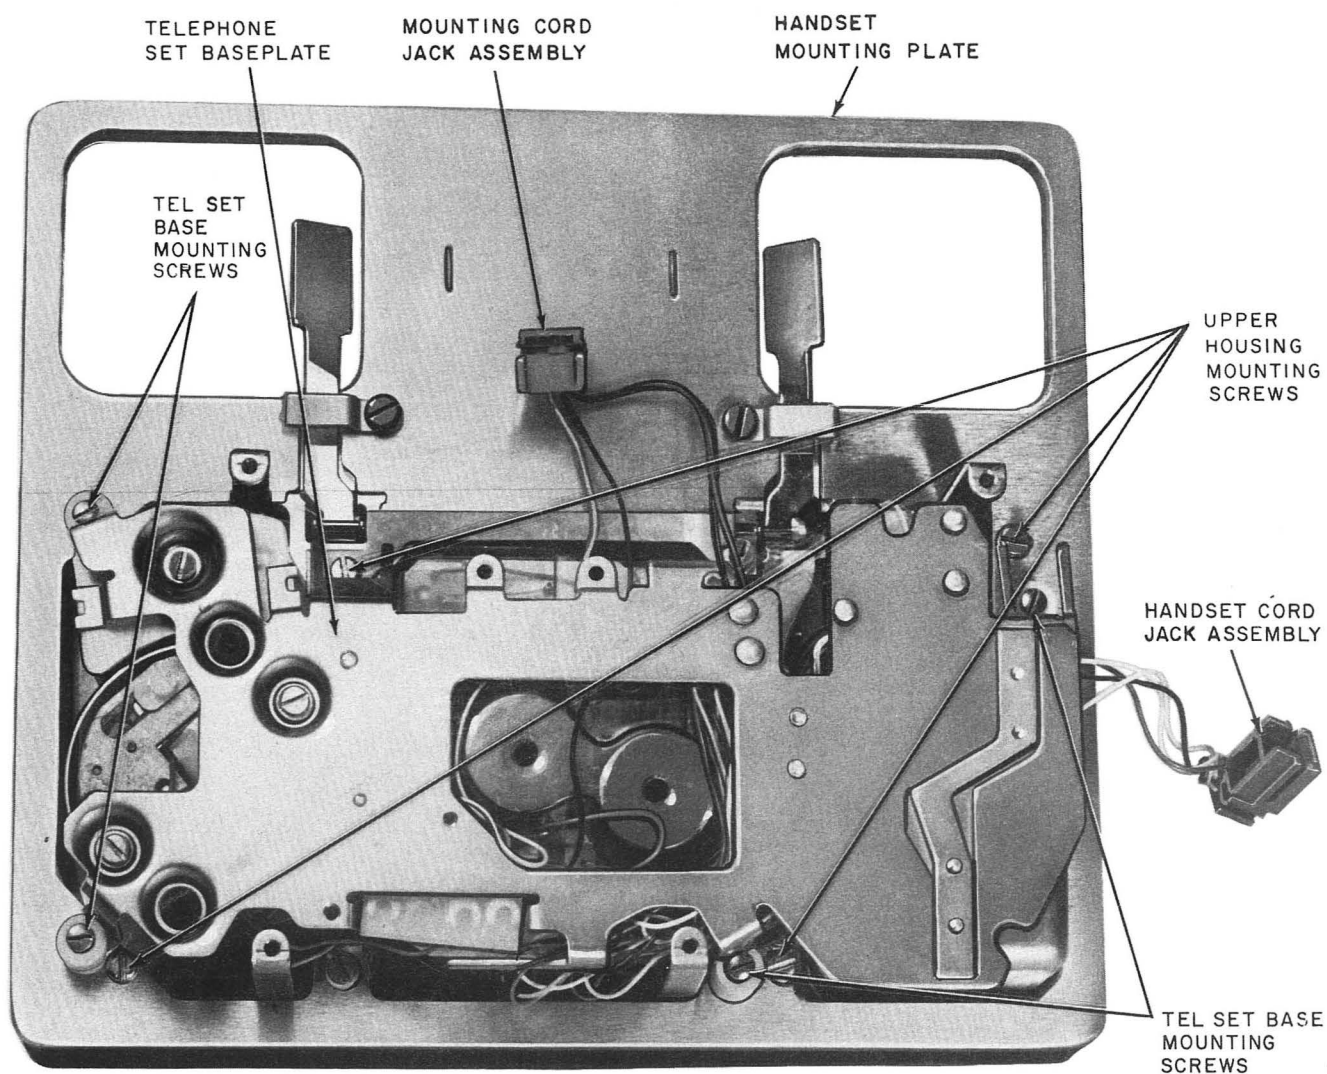

Fig. 5—2930A-Type (MD) Telephone Set with Lower Housing Removed
- (3) Remove bottom plate and lower housing.
- (4) Remove handset cord jack and mounting cord jack from brackets by lifting off (Fig. 5).
- (5) Remove four upper housing mounting screws (Fig. 5) which secure upper housing and remove upper housing.
- (6) Turn handset mounting plate and telephone set base over and remove hair pin clip and connecting pin from switchhook linkage.
- (7) Remove four telephone set base mounting screws (Fig. 5) and remove base.
- (8) Reassemble upper housing to handset mounting plate (Fig. 5).